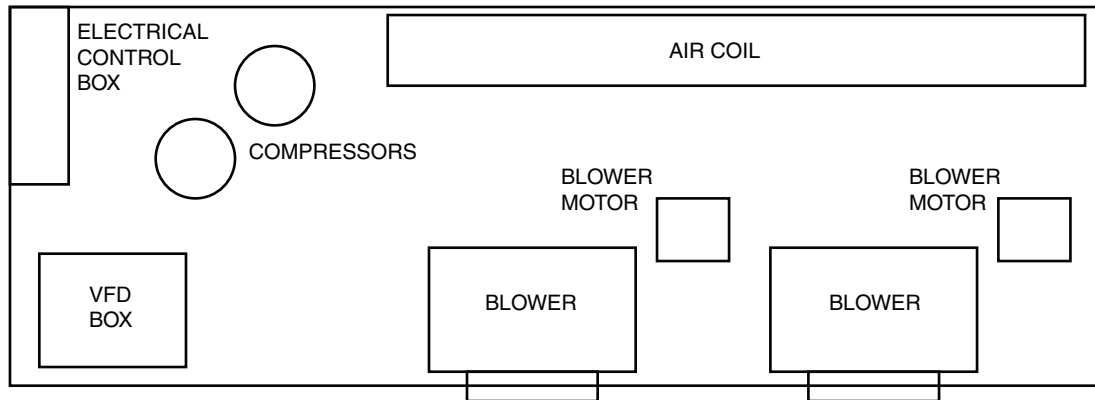

Fig. 2 — Remote VFD Shipping Location, 50HQP Units
The VFD is shipped internally inside the compressor access section of the unit. The VFD is located in a cardboard box along with the manufacturer's installation manual. See Fig. 2. Inspect for shipping damage before proceeding with the VFD installation.
1. Remove the VFD from the unit shipping storage location (see Fig. 2).